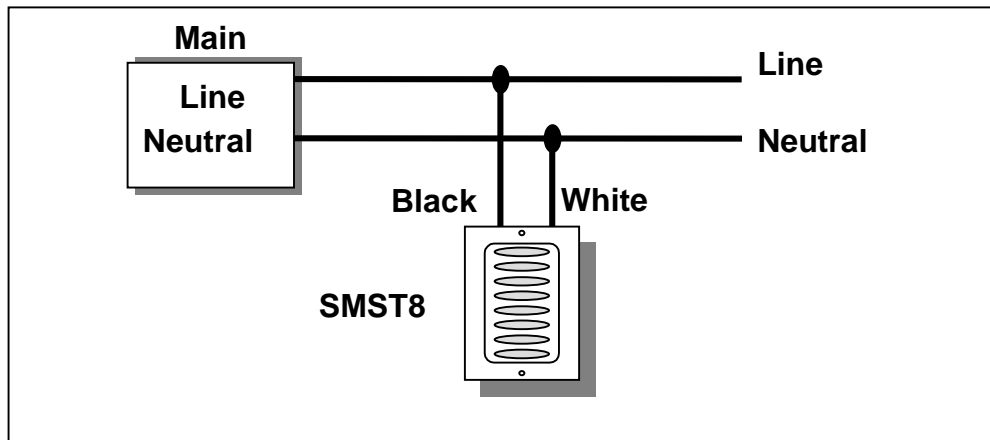

Figure 2: Wiring Diagram
- 2) Connect the SMST8 to the electrical wires (refer to in Figure 2).